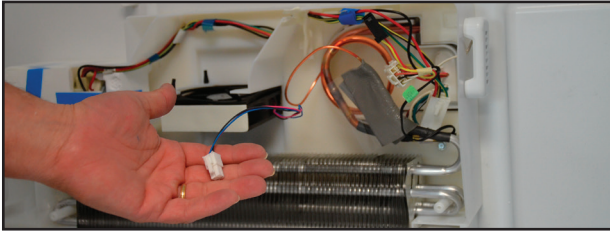

FIGURE 29
6. Disconnect wire harness. See *Figure 29*.